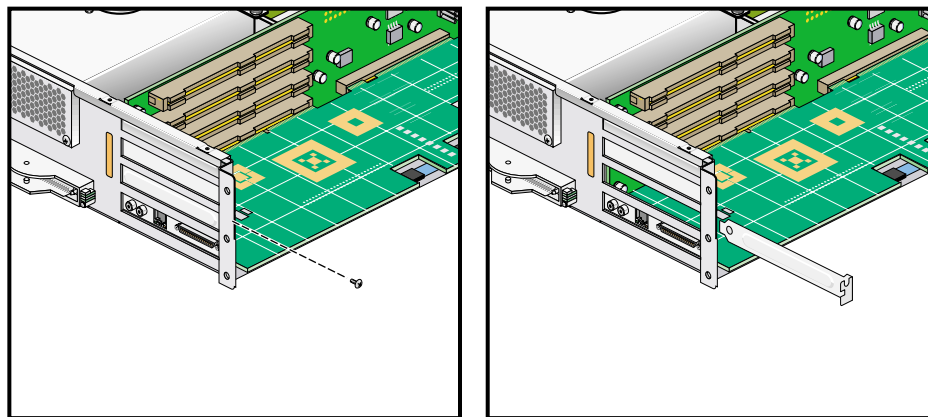

Figure 4-8 Removing the Blanking Plate
10. If a blanking plate covers the slot that is needed for the installation, remove the retaining screw, as shown in Figure 4-8, and the blanking plate.